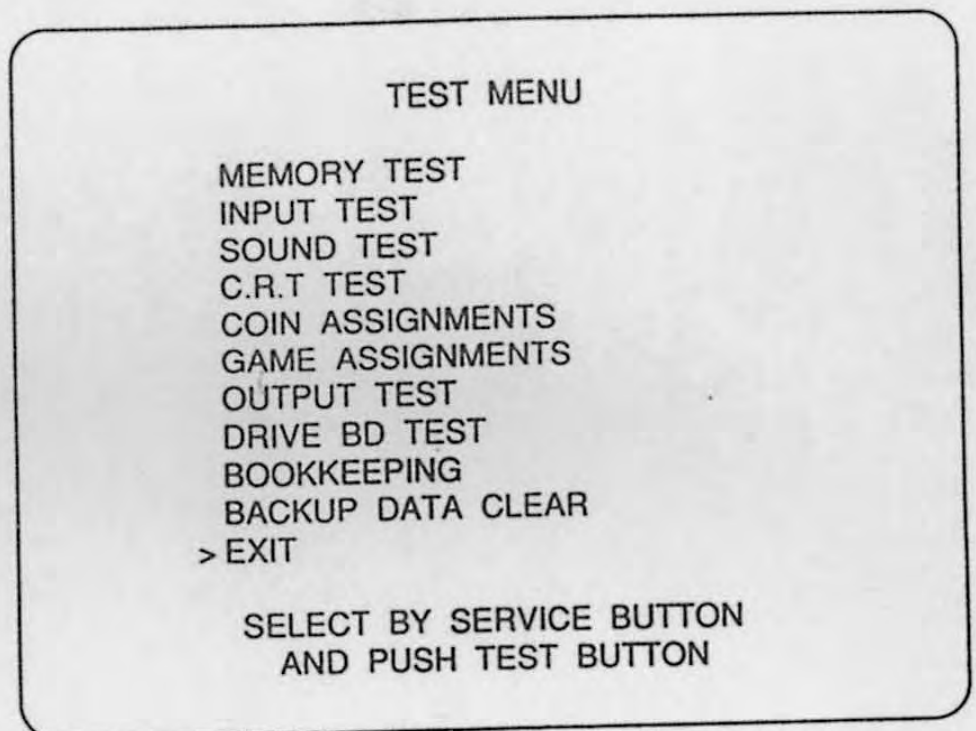

FIG. 8.2 TEST MENU
- Press the TEST BUTTON to cause the following Test Menu to be displayed on the r (FIG. 8.2)
- Press the SERVICE BUTTON or VIEW CHANGE BUTTON (VR) until the pointer moved to the desired item to make a selection.